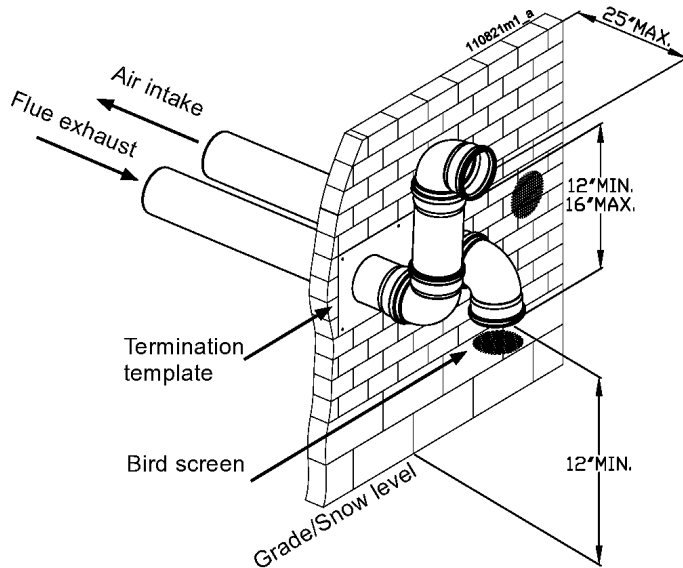
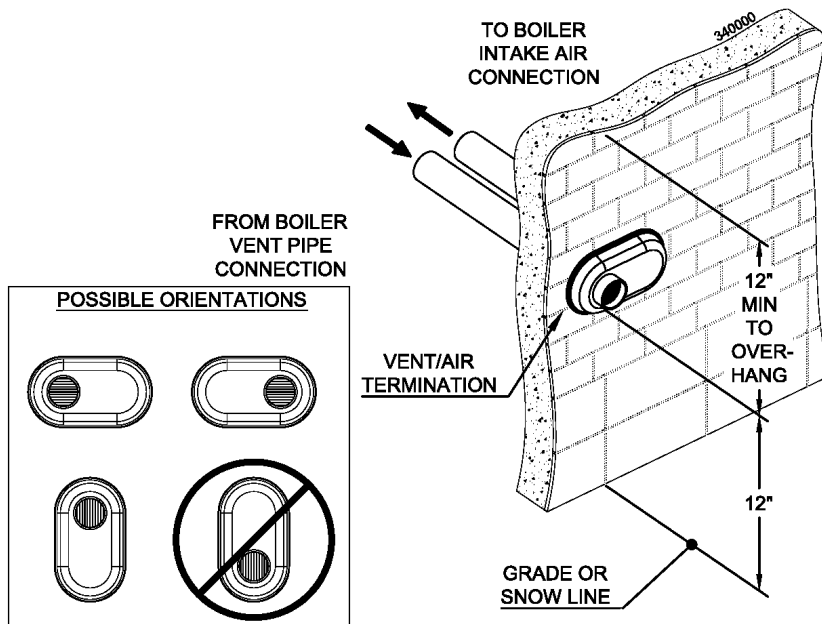

Figure 10-15 Two pipes sidewall termination of air and vent
Figure 10-17 Two pipes sidewall termination of air and vent with low profile kit
3. The vent piping must terminate as shown in Figures 10-15 or 10-16.
**WARNING!!!** Do not exceed the maximum lengths of the outside vent piping shown in Figures 10-15 or 10-16. Excessive length exposed to the outside could cause freezing of condensate in the vent pipe, resulting in potential boiler shutdown.
3. The air piping must terminate in a down-turned elbow as shown in Figures 10-15 and 10-16. This arrangement avoids recirculation of flue products into the combustion air stream.
4. The vent piping must terminate as shown in Figures 10-15 and 10-16. A low profile kit can also be used, like shown in Figure 10-17.
⚠ WARNING!!! Do not exceed the maximum lengths of the outside vent piping shown in Figures 10-15 and 10-16. Excessive length exposed to the outside could cause freezing of condensate in the vent pipe, resulting in potential boiler shutdown.
5. Maintain clearances as shown in Figures 10-15, 10-16 and 10-17. Also maintain the following:
1. The air termination coupling must be oriented at least 12 inches above grade or snow line as shown in Figures 10-15 and 10-16.
2. Maintain the required dimensions of the finished termination piping as shown in Figures 10-15 and 10-16.
3. Do not extend exposed vent pipe outside of the building more than what is shown in Figures 10-15 and 10-16. Condensate could freeze and block vent pipe.